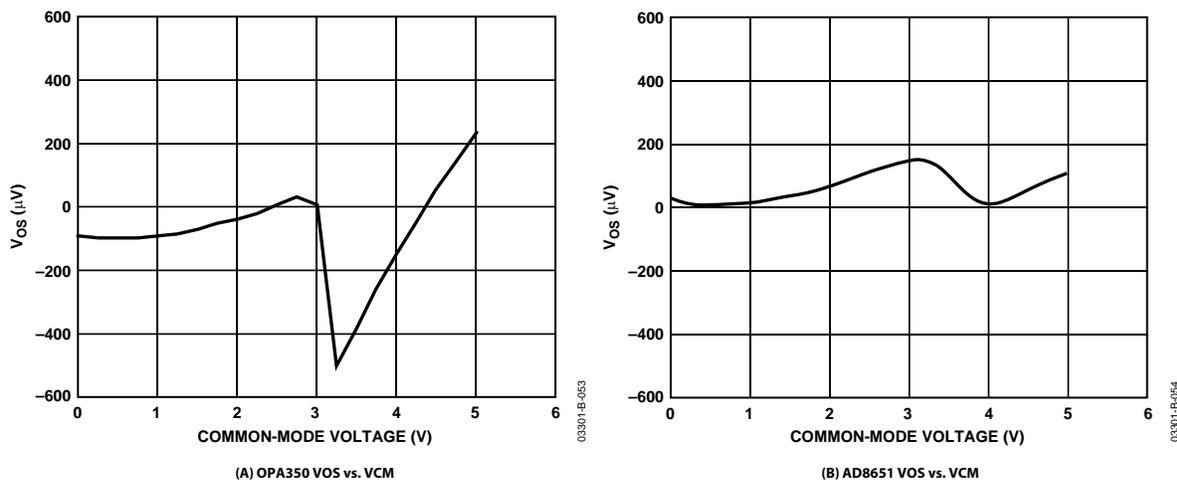

Figure 53. Input Offset Distribution over Common-Mode Voltage
The NMOS and PMOS input stages are separately trimmed using DigiTrim to minimize the offset voltage in both differential pairs. Both NMOS and PMOS input differential pairs are active in a 500 mV transition region when the input common-mode voltage is approximately 1.5 V below the positive supply voltage. A special design technique improves the input offset voltage in the transition region that traditionally exhibits a slight  $V_{OS}$  variation. As a result, the common-mode rejection ratio is improved within this transition band. Compared to the Burr Brown OPA350 amplifier, shown in Figure 53 (A), the AD8651, shown in Figure 53 (B), exhibits much lower offset voltage shift across the entire input common-mode range, including the transition region.